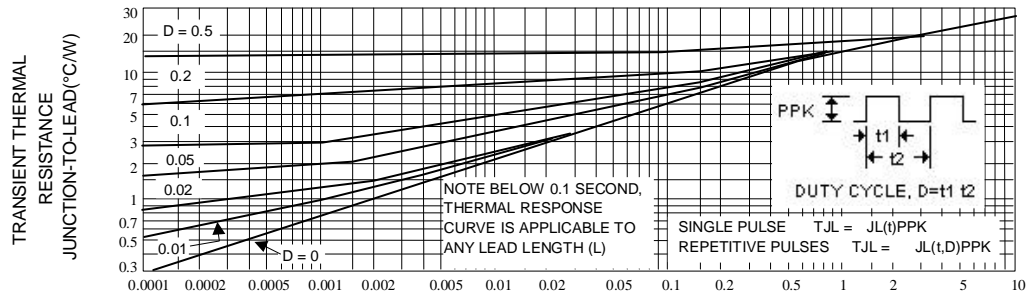
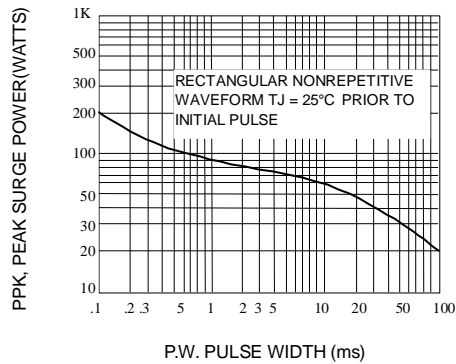

Fig. 2-TYPICAL THERMAL RESPONSE L,
Fig. 3-MAXIMUM SURGE POWER
4. SURGE CURRENT (I_r) NON-REPETITIVE - The rating listed in the electrical characteristics table is maximum peak, non-repetitive, reverse surge current of 1/2 square wave or equivalent sine wave pulse of 1/120 second duration superimposed on the test current, I_{ZT}, per JEDEC standards, however, actual device capability is as described in Figure 3.
ΔT_{JL} is the increase in junction temperature above the lead temperature and may be found from Figure 2 for a train of power pulses or from Figure 10 for dc power.
Data of Figure 2 should not be used to compute surge capability. Surge limitations are given in Figure 3. They are lower than would be expected by considering only junction temperature, as current crowding effects cause temperatures to be extremely high in small spots resulting in device degradation should the limits of Figure 3 be exceeded.